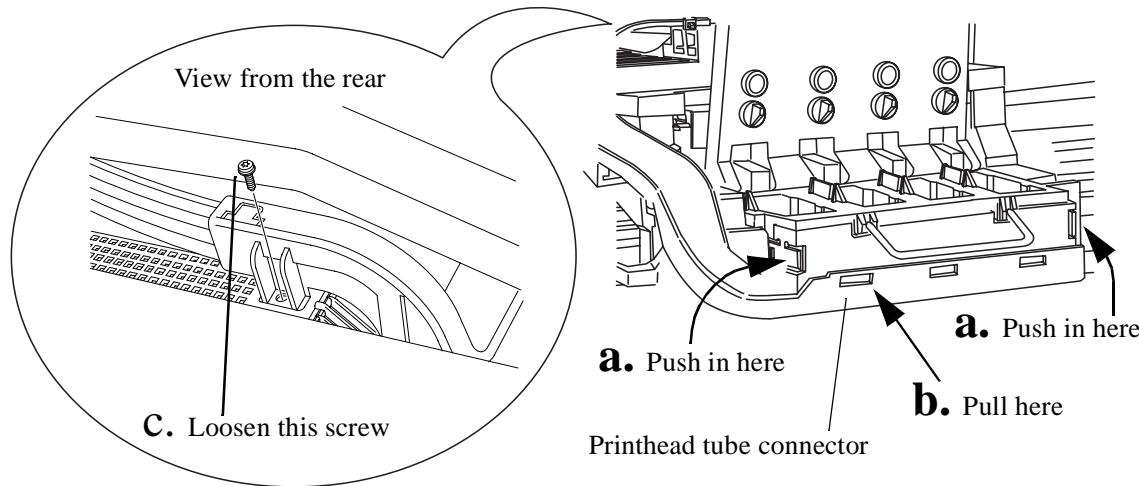

Figure 42: Carriage Assembly and Belt
For steps 3 and 4, refer to Figure 42.
4. Remove the printhead tube connector (refer to Figure 42).